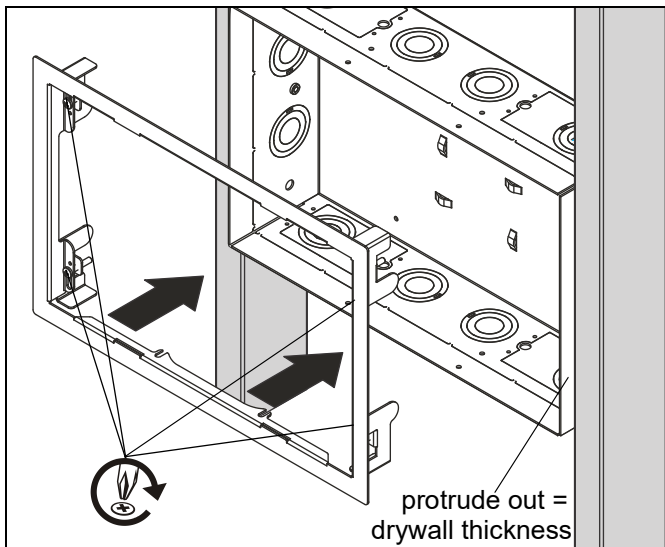

Figure 9
**IMPORTANT ! :** PAC525/526 box must protrude out from the studs a distance equal to the depth of drywall. (See Figure 9)
9. (Flange models ONLY) Install flange (L) around PAC525/526 box. Tighten four screws in locked position to secure locking cleats. (See Figure 9)